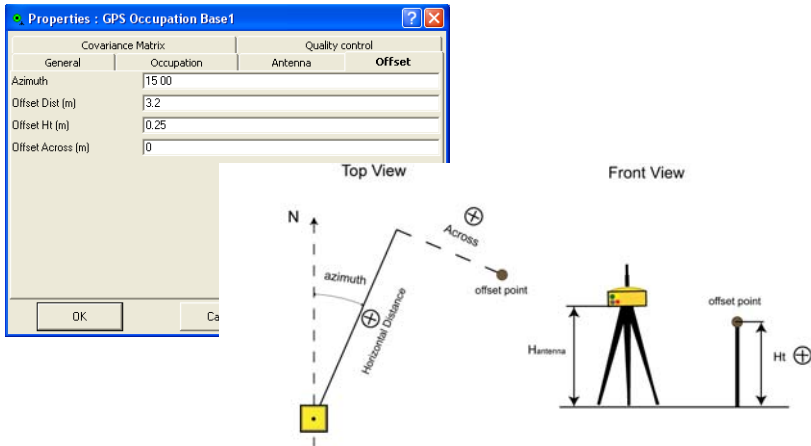

Figure 5-12. GPS Occupations Properties – Offset Tab
- Right-click on the *GPS Occupations* table and click **Properties** on the pop-up menu. Click the *Offset* tab to edit offsets for the selected occupation (Figure 5-12 on page 5-13):